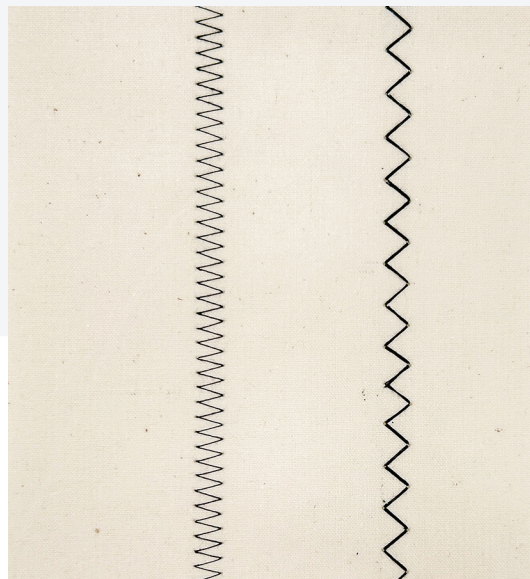

Fig. 3
2. Select Stitch Width and increase the stitch width to 5.5 mm (Fig. 3).